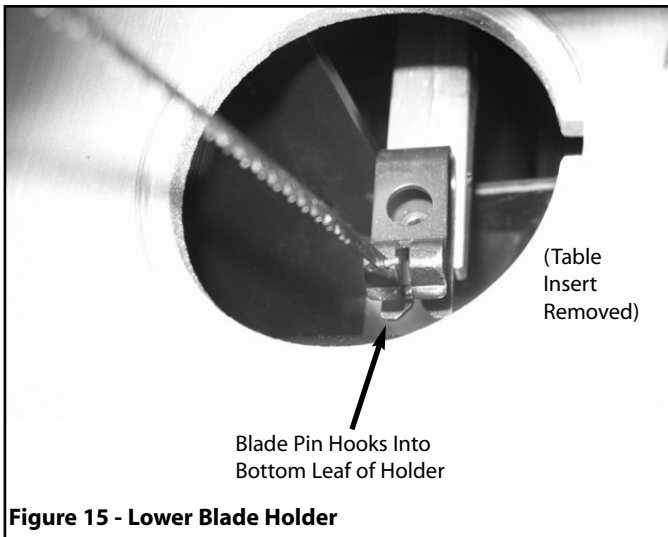

Figure 15 - Lower Blade Holder
- Insert new blade into the lower holder first and then into the upper holder (see Figures 15 and 16).